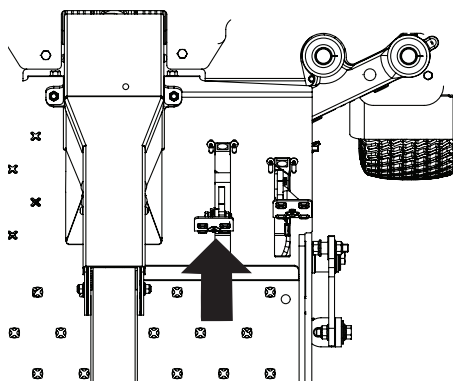

Figure 25
1. Slowly push the forward drive pedal forward. The mower will start to move forward (Figure 25).